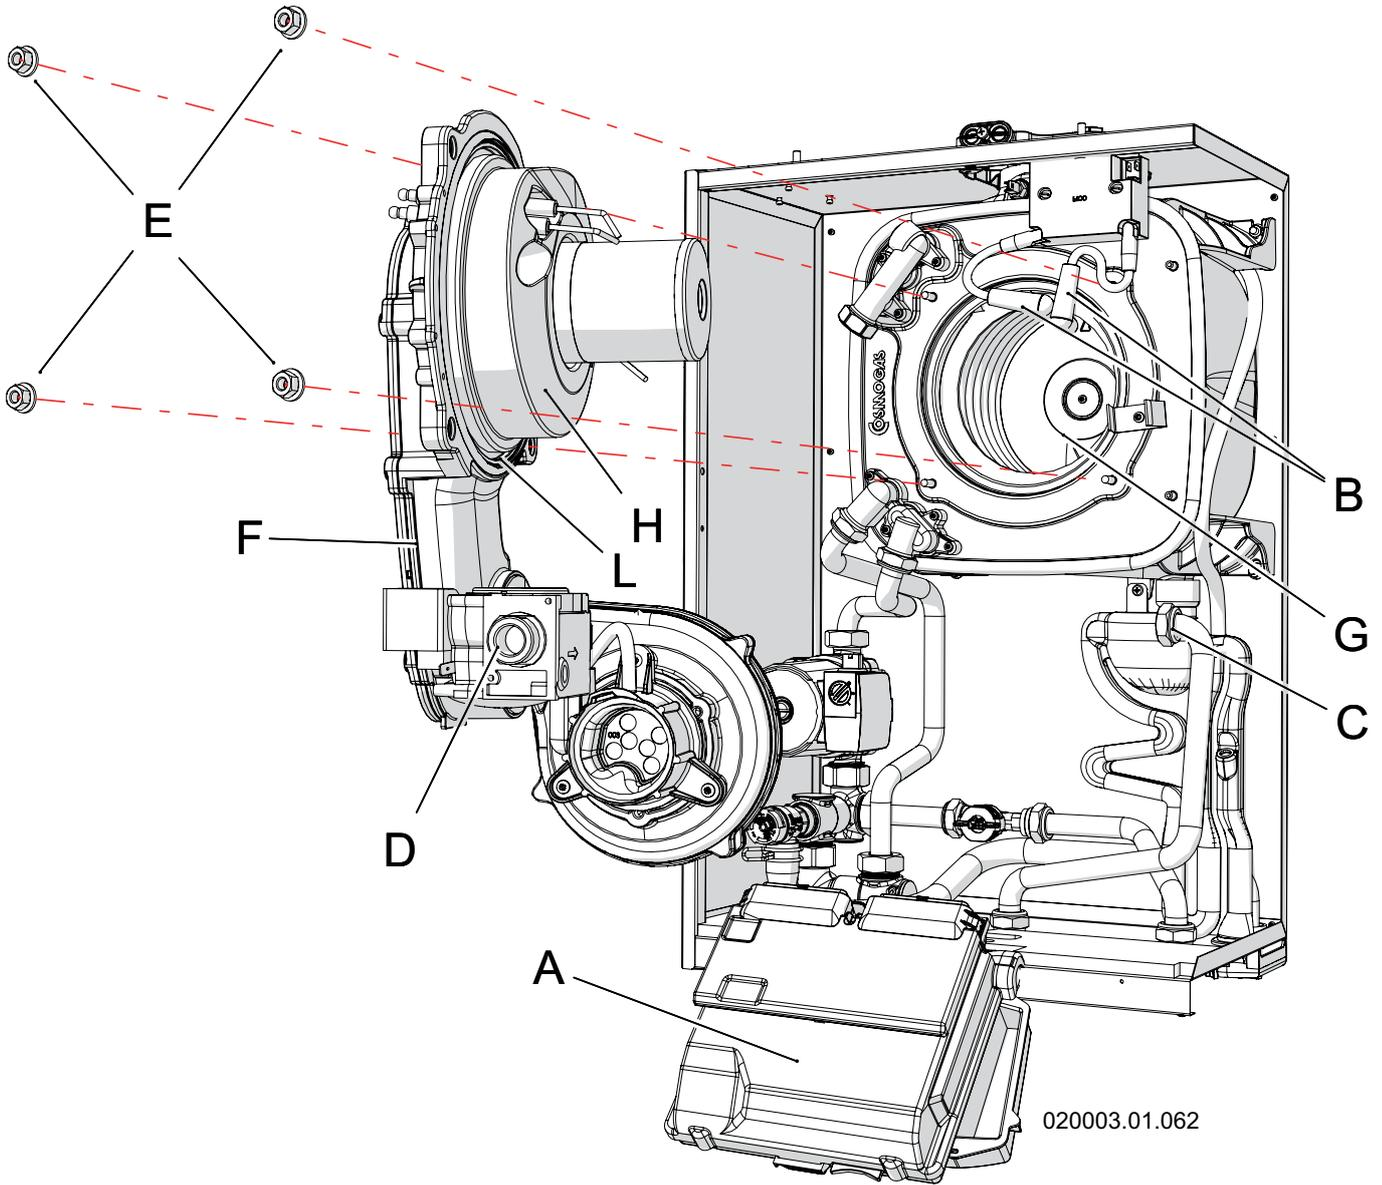

Figure 8-2 - Removing the burner fan unit
Proceed as follows to remove the burner fan unit (refer to figure 8-2 when not differently specified):
Thermal insulations must be checked every year and replaced if they are cracked or damaged. See Figures 8-2 where the thermal insulations (items "G" and "H") are showed assembled in the burner and in the heat exchanger.
**Once verified the condition of thermal insulation (see Figure 8-2), if necessary, replace with spare parts kit, following the instructions supplied with it. With the thermal insulation must be replaced the burner gasket "L" and the two gaskets of the electrodes.**
To correctly clean the burner and the heat exchanger (exhaust flue side), proceed as follows (refer to figure 8-2 when not differently specified):